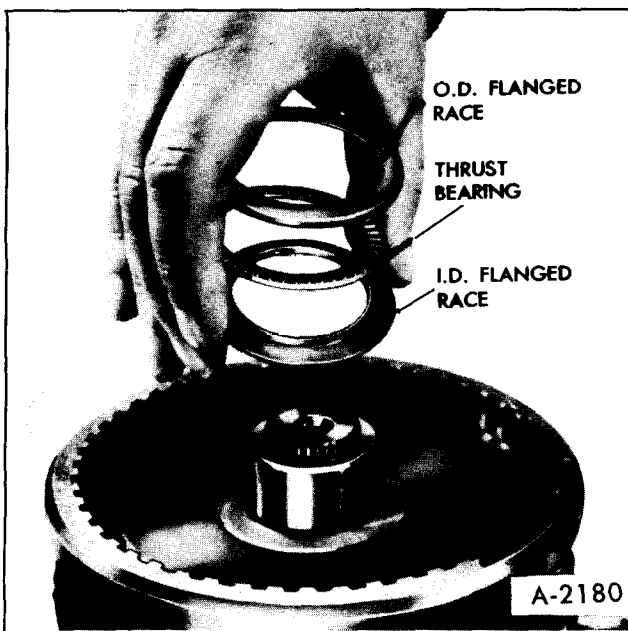

Figure 63-Installing Output Flange Thrust Bearing
5. Install the rear internal gear to output flange thrust races and bearings as follows: (Retain with petrolatum) (figure 63).